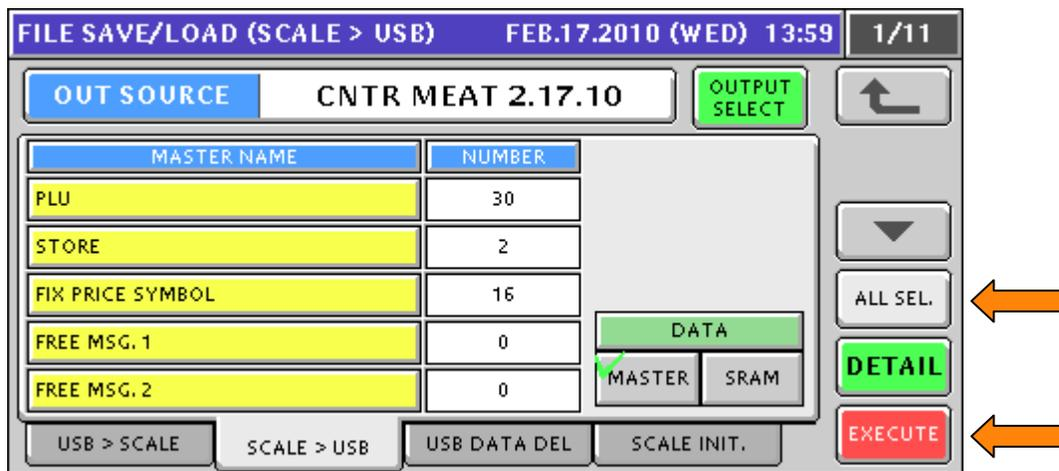

Figure 6.3. Select All Files for Output
13. Press the **ALL SEL.** button to select all files for output. Individual files may be selected but backing up all files is recommended. See Figure 6.3.